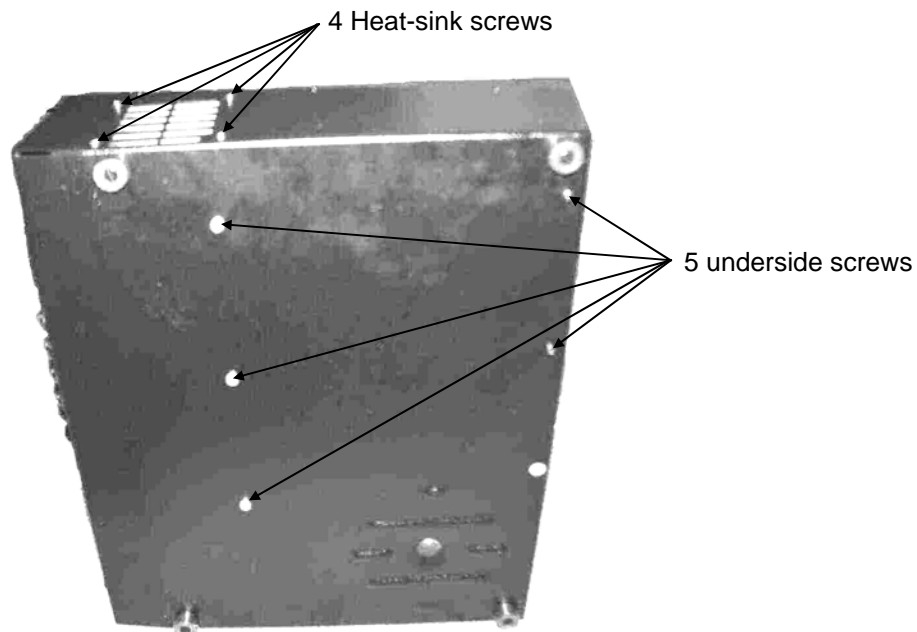

fig.7
- 1) Turn the base onto its side (supporting if necessary) to reveal underside. Referring to fig.7 remove the 5 screws from the base.
- 2) Place the unit so that it is upright again. Referring to fig.7 remove the 4 heat-sink screws from the side of the console.